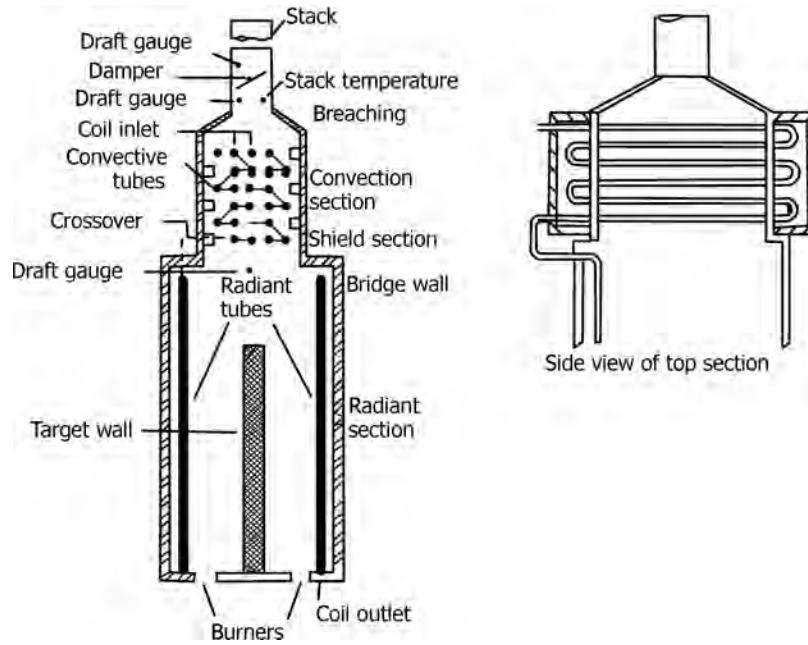

FIGURE 14.3 Fired heater with vertical radiant tubes and side view of top section.
- A typical vertical cylindrical heater consists of tubes arranged in a vertical position backed by refractory cylindrical wall and centrally located multiple hearth burners firing vertically upward inside the tube circle (Figure 14.3). Natural draft is normally employed.